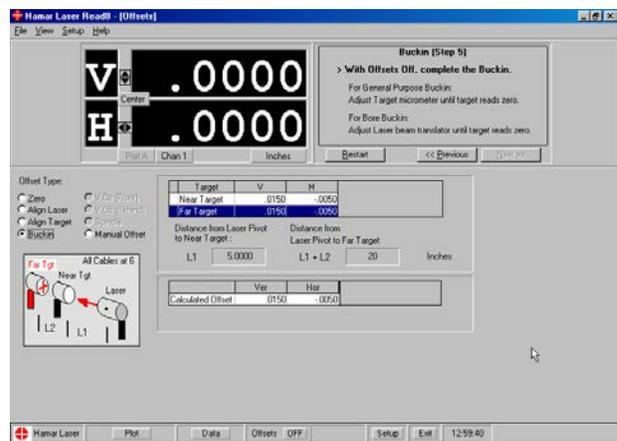

Figure 60 - Buckin Offset Screen – Finish Buckin (Step 5)
15. Click Next to proceed to Step 5 (Figure 60).